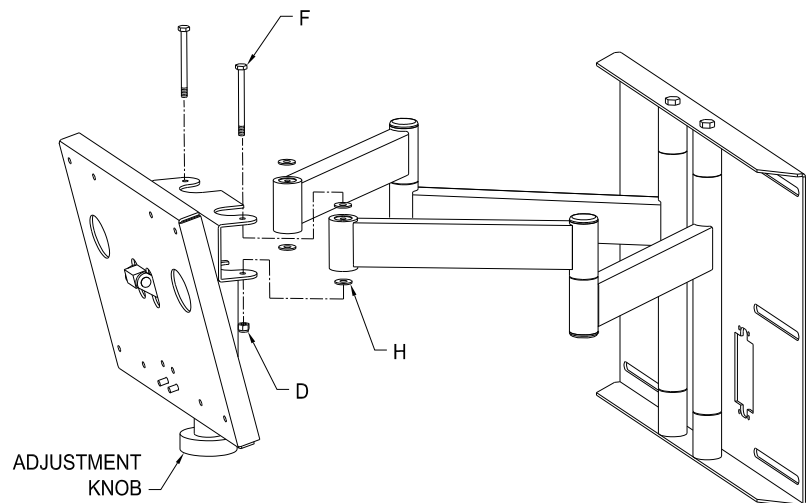

Figure 3
7. Attach Zee-Bar Plate Assembly to the Arm Assemblies utilizing four Plastic Washers. See Figure 3.